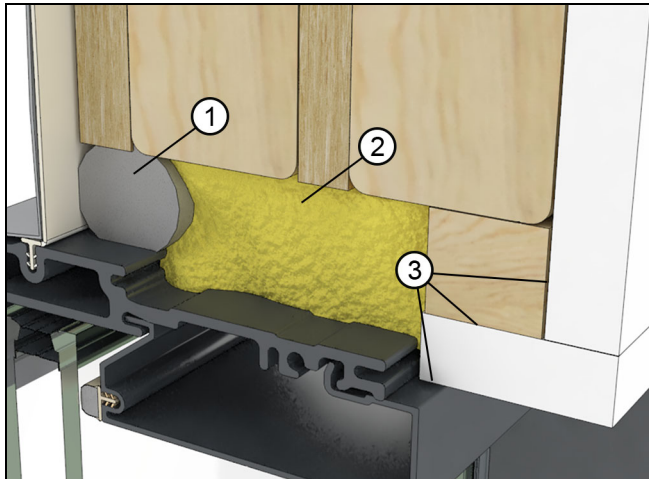

Figure 52
1. Apply insulation in the rough opening, against the backer rod installed earlier. See Figure 52.
2. Apply a continuous bead of sealant around the interior perimeter. Seal all joints where drywall returns to the window frame. See Figure 52.